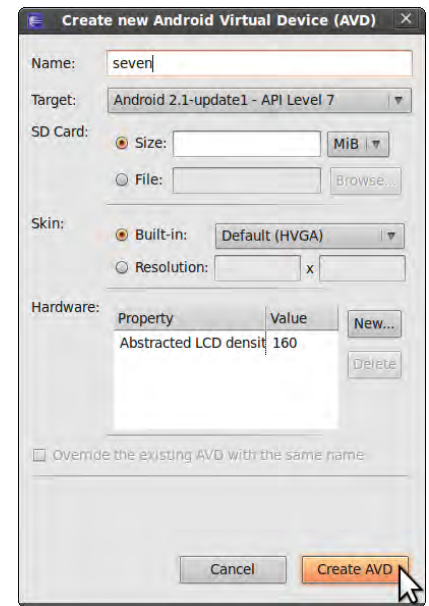

Figure 6-17. Creating a new emulator
3. Leave everything else at its default and click Create AVD, as shown in Figure 6-17.